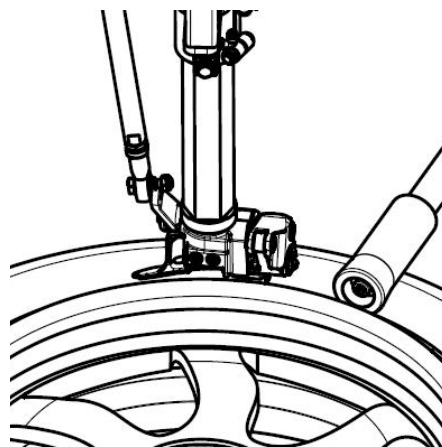
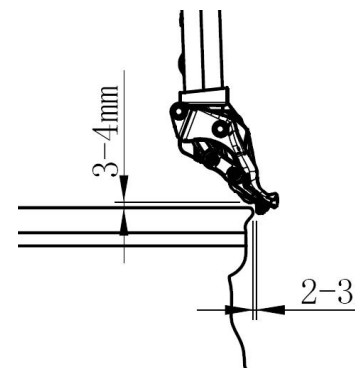

FIG 26
FIG 27
- Press the control valve (**FIG3 5**) to the middle position, the demounting head should fall down to the working position. Make the demount tool close to the rim of the wheel. The protection cover and plastic tail cover in the demount head will contact with the rim edge. If the tire wall is hard, use the press plate of assist arm to press the tire lip down like **FIG26**. Then press the control valve button to lock the horizontal arm. At this time the demounting head will move slightly away from the rim automatically to separate the demounting head and rim to avoid scratching the rim like **FIG27**.